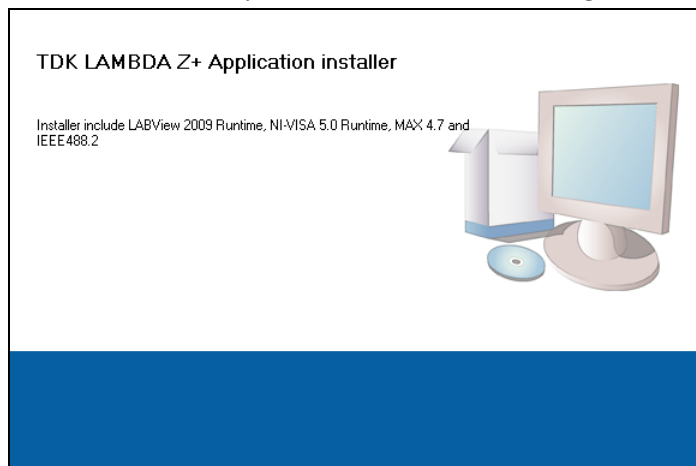

Fig 2
3. Installation process will start. Refer to Fig 2.